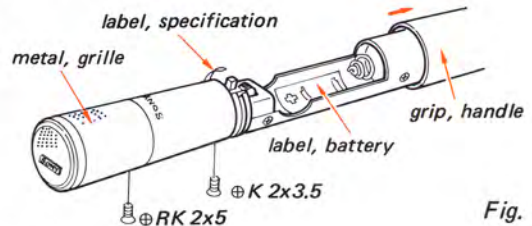

Fig. 3-1
- (1) Remove the handle grip from the chassis by turning it counterclockwise.
- (2) Peel the specification label off.
- (3) Remove the grille metal from the chassis by removing the two screws shown in Fig. 3-1.
- (4) Peel the battery label off.